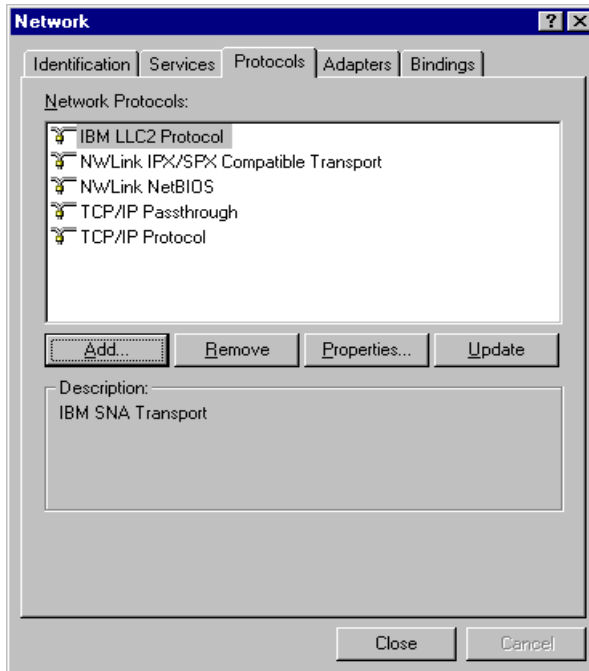
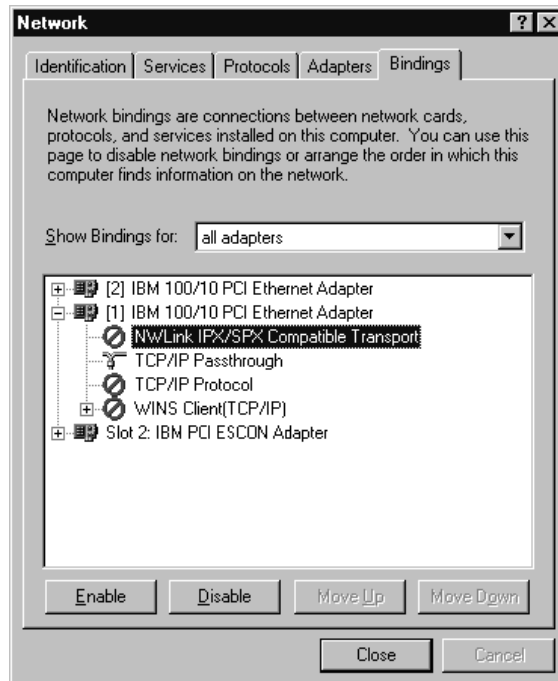

Figure 9-7. Network Protocol list with TCP/IP Passthrough
Figure 9-8. Network Bindings for all Adapters
7. The Network dialog Protocol page will redisplay (Figure 9-7). You should now see TCP/IP Passthrough on the list of installed protocols.
8. TCP/IP Passthrough requires dedicated LAN adapters. You must disable all other services and protocols bound to LAN adapters that are planned for use with TCP/IP Passthrough. Click on the **Bindings** tab in the Network screen (Figure 9-7). Then select **All Adapters** to display the list of installed adapters in the server. Expand the bindings for any adapter that you plan to use for TCP/IP Passthrough. Highlight and **Disable** all services and protocols bound to the adapter except for TCP/IP Passthrough. Figure 9-8 shows a properly configured LAN adapter.